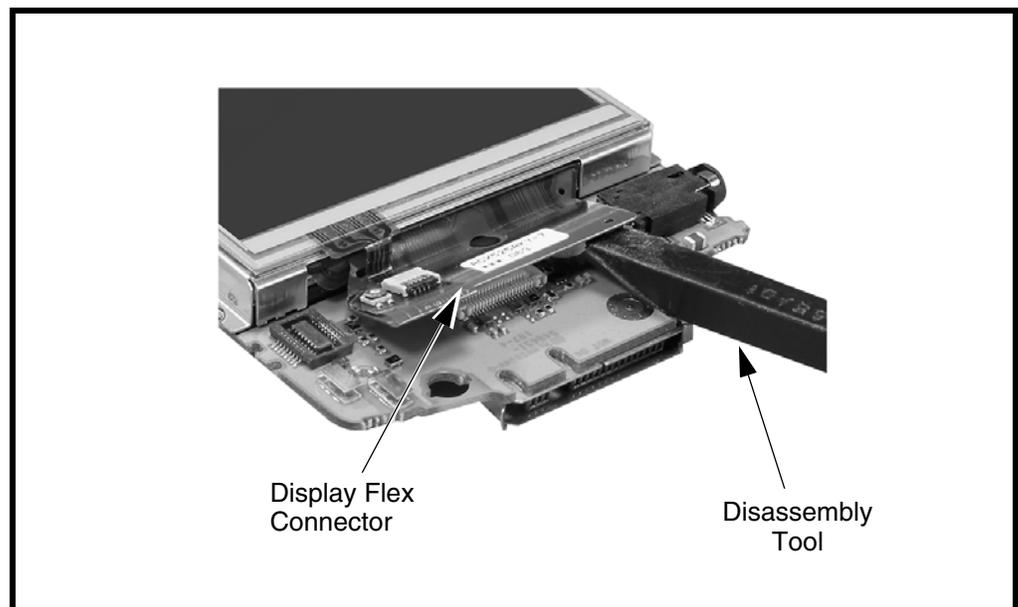

Figure 16. Removing the Display Flex Connector
3. Release the display assembly clips from the transceiver on each side of the display assembly as shown in Figure 16.